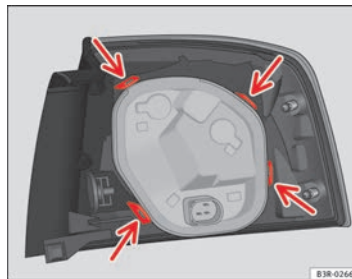

Fig. 229 Securing the bulb holder in the rear light unit
- Check that all four retaining tabs ⇒ page 279, fig. 229 -arrows- have engaged.